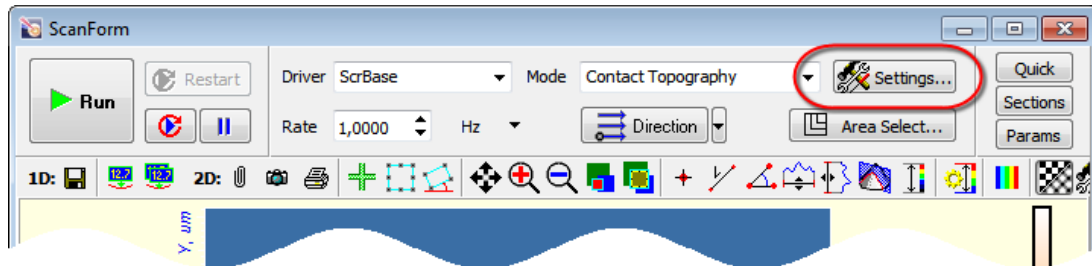

Fig. 1-15. Settings button
- a. Open the **ScanSettings** window by clicking the  Settings... button (Fig. 1-15) of the scanning window.